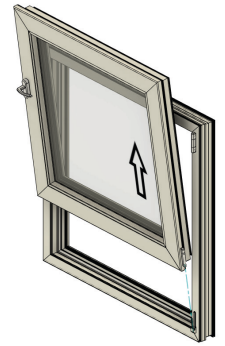

Figure 19
4. Slightly tilt the sash out of the frame and lift it off the lower hinge pin. (Figure 19)
4. Ensure the sash was not bowed by improper lifting or storage. If it was, the bow can be removed as shown in Figure 19.